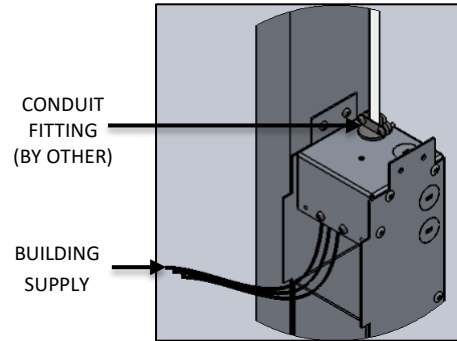

FIG. 13- DETAIL SHOWING
6. Attach appropriate 1/2" CONDUIT FITTING to knockouts and run building supply connections into the box. make sure to pull the wires out through the square opening as shown below in FIG. 13 & 14.